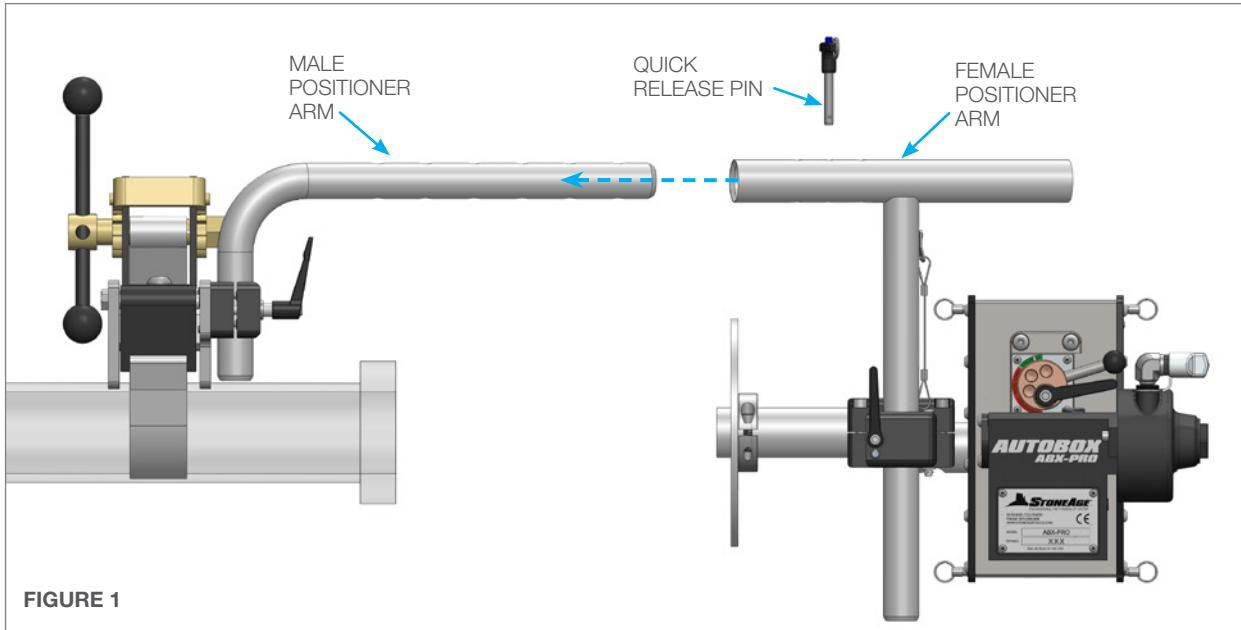

FIGURE 1
1. Slide the Female Positioner Arm onto the Male Positioner Arm. (**Figure 1**) Line up the incremental holes and push the Quick Release Pin through both positioner arms. (**Figure 1.1**)
- To load a hose, release the Adjustable Handle and rotate the Cam Lever until the Indicator Pin is in the “**Disengaged**” position. This opens up the space between the rollers. (**Figure 1**)